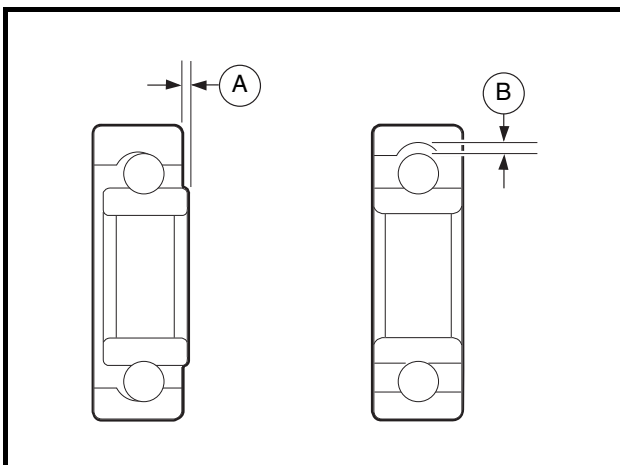

Figure 12-8 Bearing Play Inspection
1. Using a clean cloth, wipe the carbon dust from the two bearings. Inspect bearings by spinning them by hand and checking for both axial (A) and radial (B) play (**Figure 12-8, Page 12-5**).